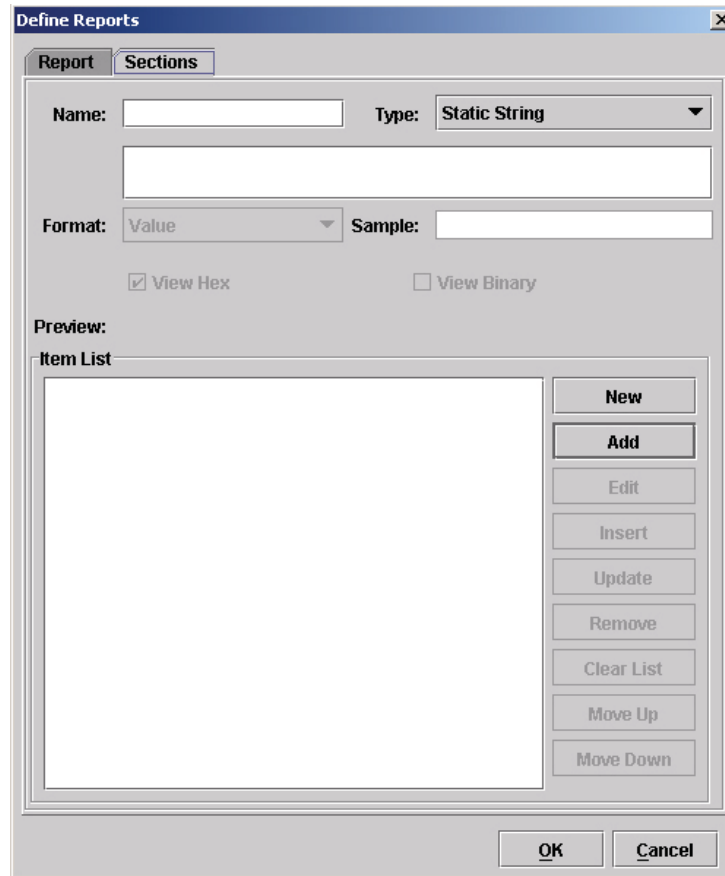

Figure 215 The Sections Tab of the Define Reports Dialog Box
2. Click the **Sections** tab (Figure 215). We will use this tab to define all sections needed to make the full report. The printer operator panel LCD has a maximum of 16 characters available per line to display the message.